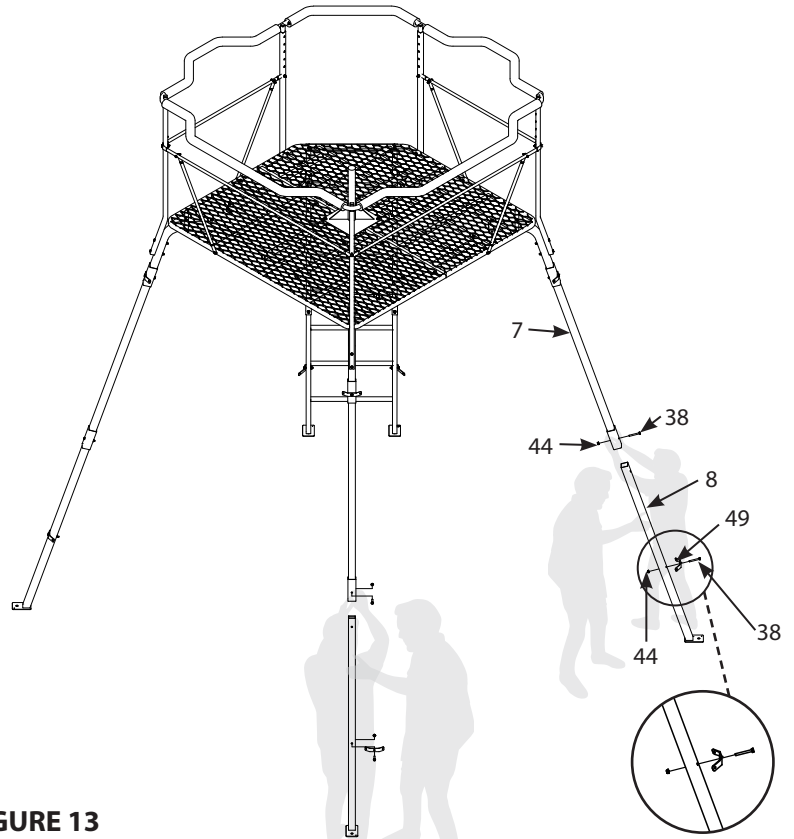

FIGURE 13
13. With the help of two people, slowly tip the partially erected quad pod onto the ladder and one leg as shown in Figure 13 by lifting on the opposite two legs. Once the two people have the quad pod balanced securely, the third person must insert one bottom leg (8) into each top leg (7). Make sure foot pads are pointing outward. Secure the top and bottom leg parts together using a 1/4-20 X 2-1/4 IN bolt (38) and 1/4-20 nut (44) for each leg. **SEE FIGURE 13.**
Attach a brace-to-leg attachment bracket (49) to each bottom leg (8) using a 1/4-20 X 2-1/4 IN bolt (38) and 1/4-20 nut (44) for each leg. **SEE FIGURE 13. Securely tighten all loose hardware at this time.**